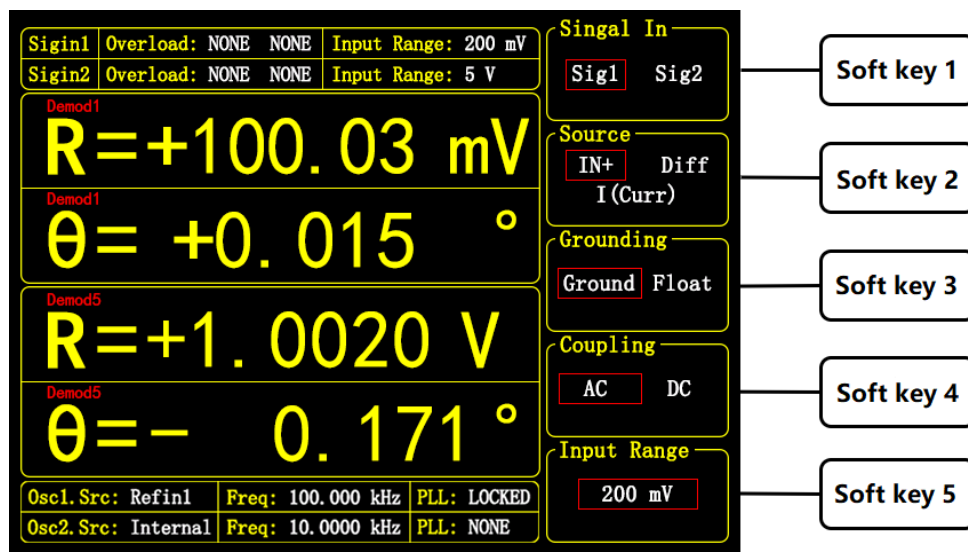

Figure 96. [SIGNAL INPUT] Menu Interface
Press "Soft key 5" to select the <Input Range> function. The selected area is highlighted. Rotate the knob to adjust the <Input Range> value so that the measured signal value is as close as possible to the input range without causing overflow. In this example, set it to <200 mV>. At this point, the sine-wave signal from the function generator has been measured. As shown in Figure 96, the measured data are $R = 100.03 \text{ mV}$ and $\theta = 0.015^\circ$.